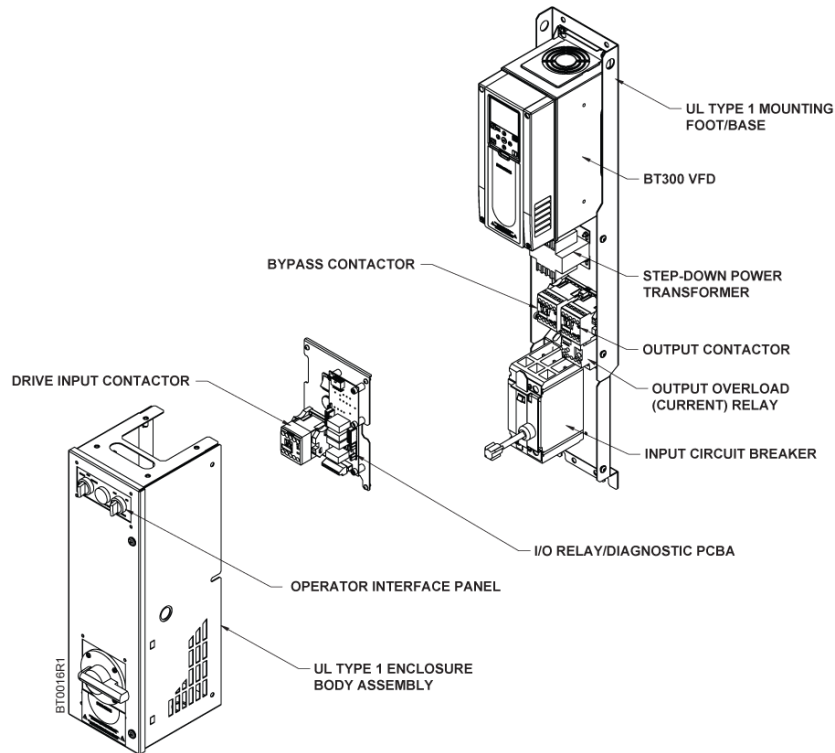
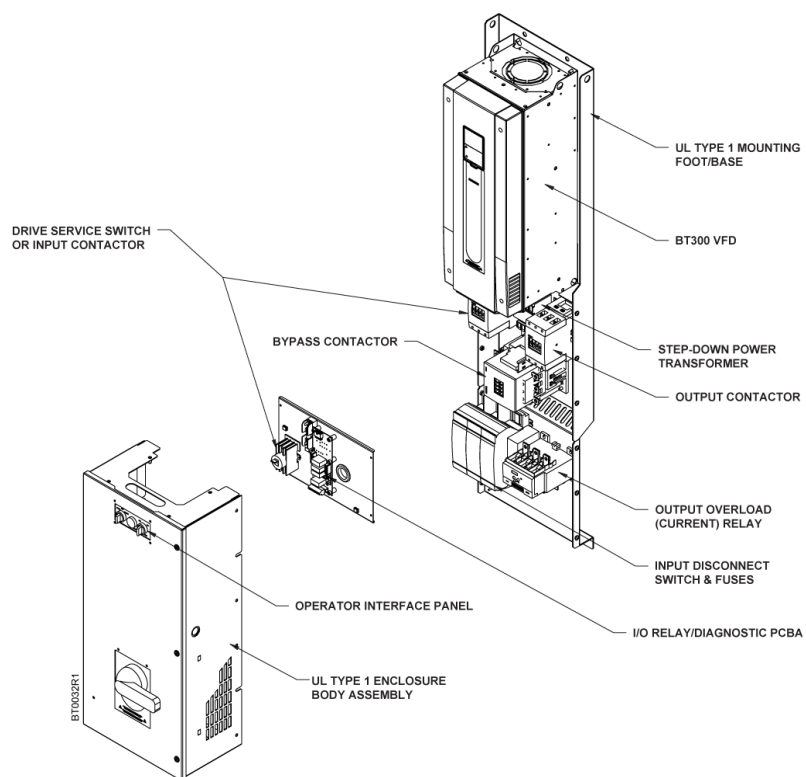

Figure 22. FS4 C-Bypass with Circuit Breaker Components.
Figure 29. FS7 C-Bypass with Disconnect with Fuses Components.
- For Conventional Bypass, see Figure 22 through Figure 29.
- See Figure 22 through Figure 29 for Conventional Bypass.